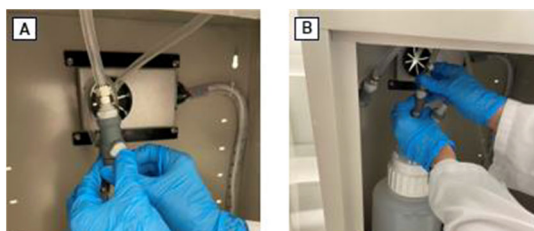

Figure 3. Disconnecting (A) and Reconnecting (B) the Vacuum Bottle
- Follow the on-screen instructions to remove the vacuum bottle. See Figure 3 for disconnecting and reconnecting the vacuum bottle.